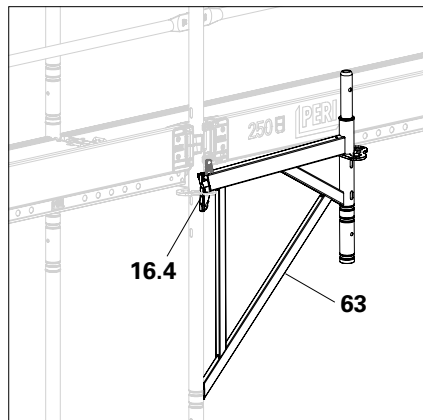

Fig. A6.04
1. Connect the Console Bracket ECM 67 (**63**) or ECM 100 to the $\frac{3}{4}$ rosette (**16.4**) of the Easy Frame EVF or the Head Frame EVH parallel to the scaffold. (Fig. A6.04)